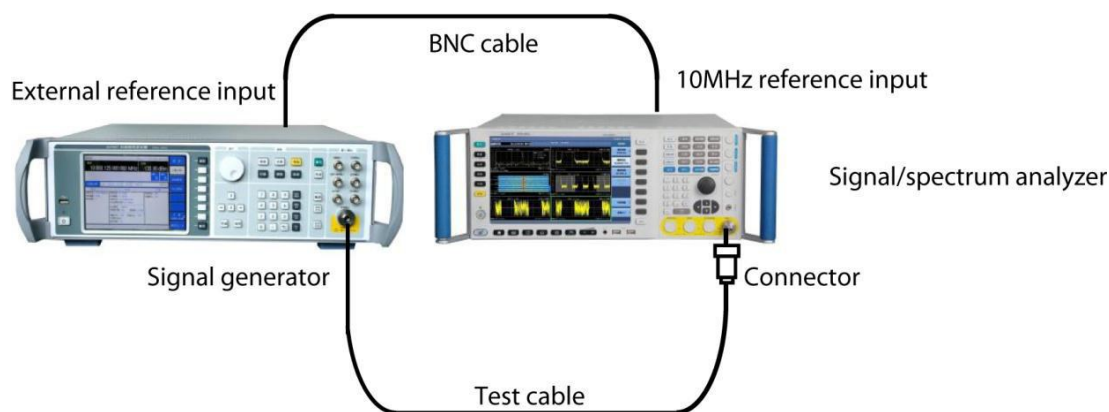

Fig. 4.39 Connection of measurement system for amplitude correction
Step 1. connect a signal generator ranging from 1GHz to 3GHz to the signal/spectrum analyzer by the cables and connector as shown in Fig. 4.39.